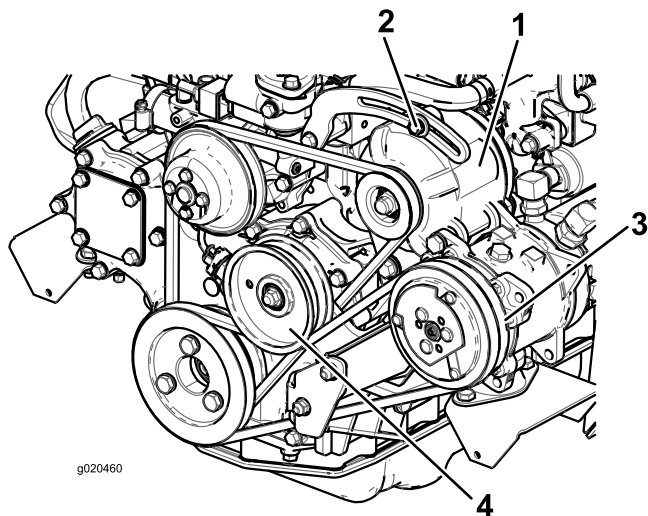

Figure 72
If the deflection is not 10 mm (3/8 inch), loosen the alternator-mounting bolts (Figure 72).
Check the condition and tension of the belt (Figure 72) after every 100 operating hours.
2. If the deflection is not 10 mm (3/8 inch), loosen the idler pulley mounting bolt (Figure 72). Increase or decrease the compressor belt tension and tighten the bolt. Check the deflection of the belt again to ensure that the tension is correct.